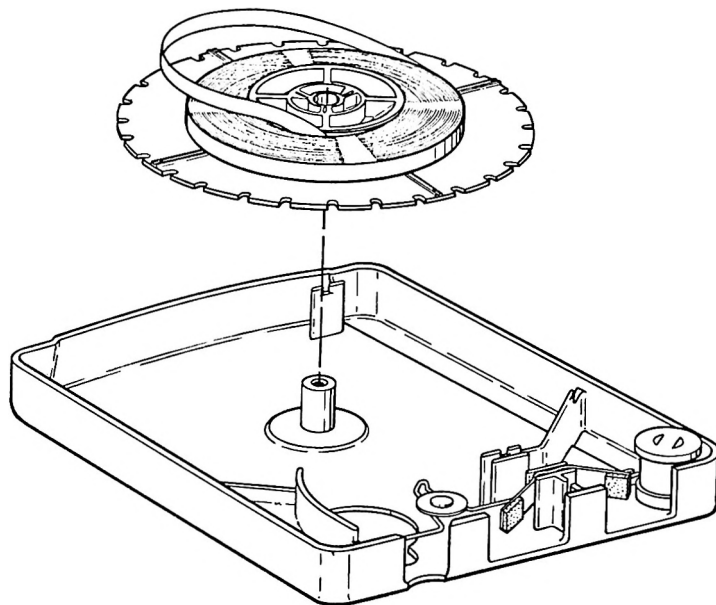

Figure 7. Placing Reel into Cartridge
a. After the tape has been spliced, place the reel in the cartridge with the head openings facing front. See figure 7.